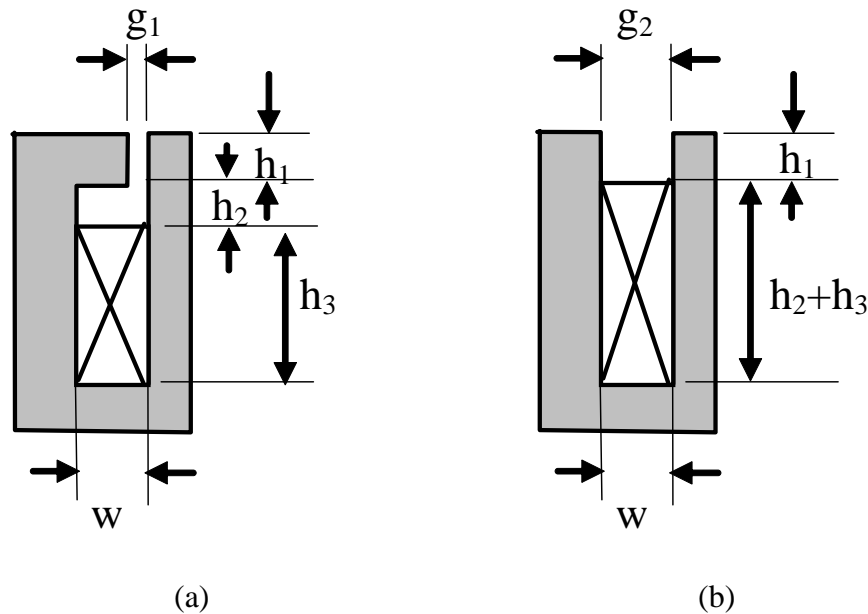

Figure 3
- a. If the winding has a current density of $J = 8 \text{ A/mm}^2$ and a packing factor of 0.5, calculate the magnet thickness required to obtain a power output of 600 W at 5000 rpm. (6)
- b. List possible ways to improve the open-circuit airgap flux density. (3)
- c. Check whether the magnet will be demagnetised at three times the full-load torque. (6)
- d. Sketch the difference between reversible and irreversible demagnetizations. (3)
- e. Explain the influence of temperature on the irreversible demagnetization for both Ferrite and NdFeB permanent magnets. (2)
3. a. Derive general expressions for the winding pitch-factor, K_p , and the distribution-factor, K_d , for both fundamental and n-th EMF harmonic components. (6)
- b. By employing coil vectors, determine the coil connections that yield a maximum winding factor for a 3-phase, 12-slot, 14-pole permanent magnet machine with double layer, concentrated windings. (4)
- c. Repeat Q3.b for a 3-phase, 12-slot, 14-pole permanent magnet machine with single layer, concentrated windings. (3)
- d. Explain the main advantages and disadvantages of a single layer winding. (4)
- e. Describe the main differences between concentrated winding and distributed winding and explain their merits and disadvantages. (3)
4. a. Derive an expression for the slot leakage inductance per-unit length, for a slot shown in Figure 3 (a) with N number of turns, specifying any assumptions which need to be made. Please note full marks will not be given if appropriate assumptions are not specified.
- b. For large wind power generators and hydroelectric generators, it is often preferred to employ open slots, as shown in Figure 3(b). Calculate the difference in winding slot-leakage inductances between Figures 3(a) and 3(b). (6)
- c. State the advantages and disadvantages of the slot configurations shown in Figures 3(a) and 3(b). (4)
- d. List possible ways to increase winding inductances and state their limitations. (6)